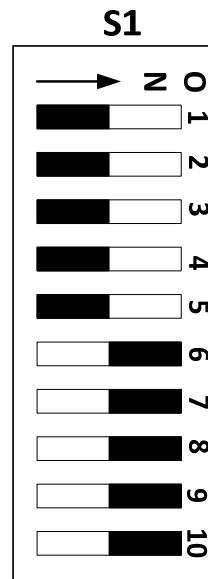

Figure 1. S1 Switch Setting
- a. For programming and regular operation, set S1, S4, S5, & S5 DIP switches as shown in Figure 1, 2, 3, & 4.